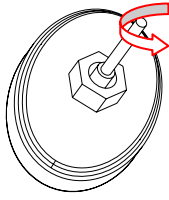

Fig. 19A
*Locate:* Gas Grill Lid, (1) Heat Indicator, (1) Lid Handle, Gas Grill Lid Handle Heat Shield, (2) M6x15 bolts
*Procedure:* Unscrew the nut from (1) Heat Indicator as shown as Fig. 19A.